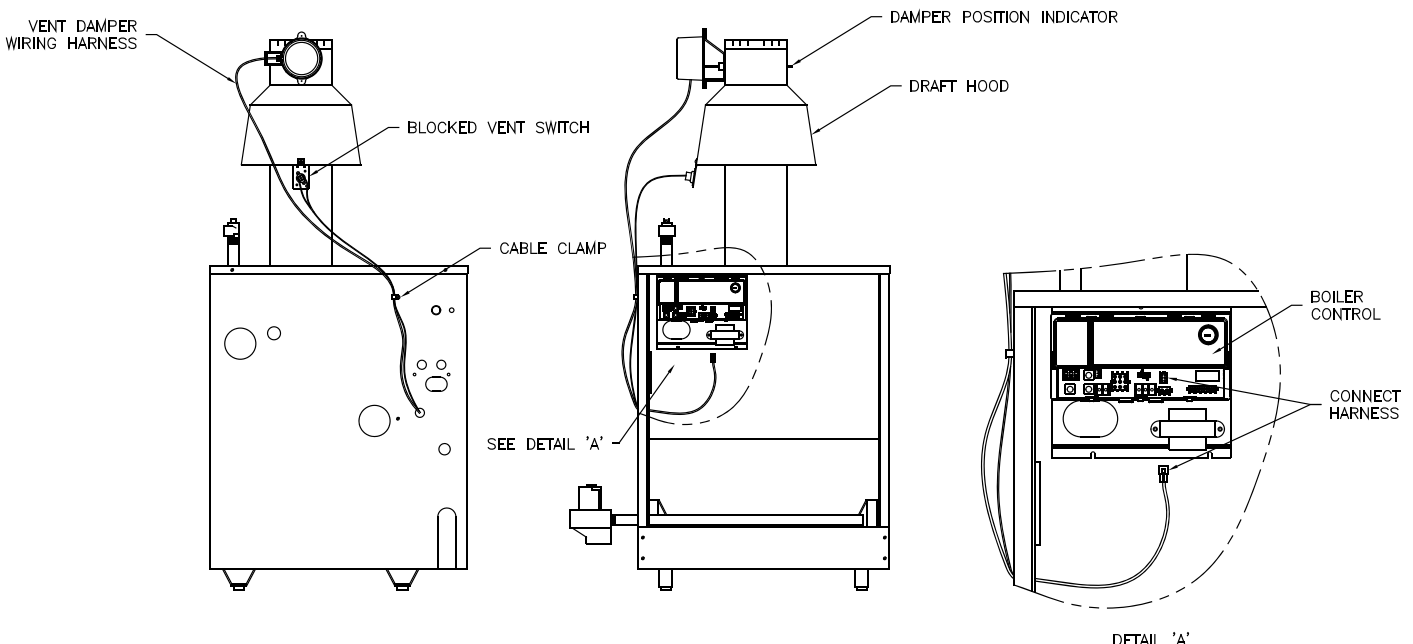

Figure 9: Vent Damper Installation
2. Mount the vent damper assembly after the draft hood, as close to the draft hood as practicable without modification to the draft hood or vent damper. (Refer to Figure 9 and to instructions packed with the vent damper for specific instructions). This is a must for the wiring harness to fit and the damper position indicator to be visible to the users.